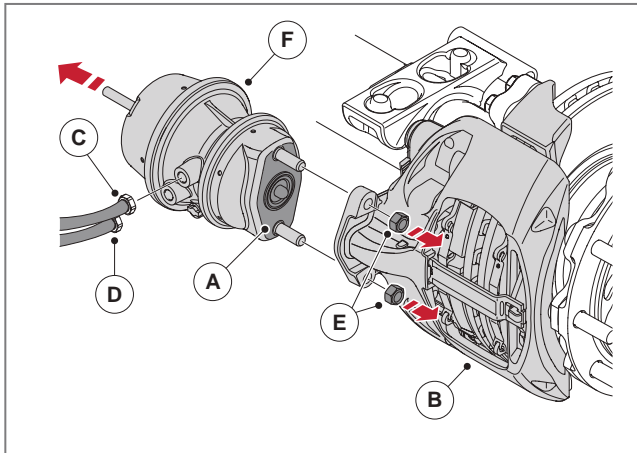

Fig. 44 - Removing the brake chamber components
3. If applicable, ensure that the spring brake chamber (F) is fully disengaged and mechanically secured in this position, see ► Fig. 44.
4. Ensure that the brake chamber (A) is depressurised.
5. Mark and remove the hose connections of the service brake (C) and, if applicable, the parking brake (D).
6. Remove the two nuts (E) holding the brake chamber. Remove the brake chamber (A) from the brake calliper (B).